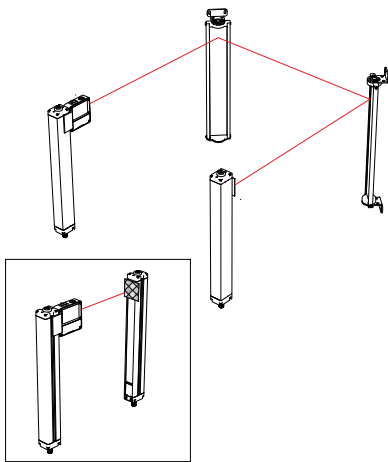

Figure 12. Optical alignment using the LAT-1-SS
**NOTE:** A LAT-1-SS Laser Alignment Tool is very helpful by providing a visible red dot along the optical axis. See Figure 12 on page 24 and Banner Safety Applications Note SA104 (p/n 57477) for further information.